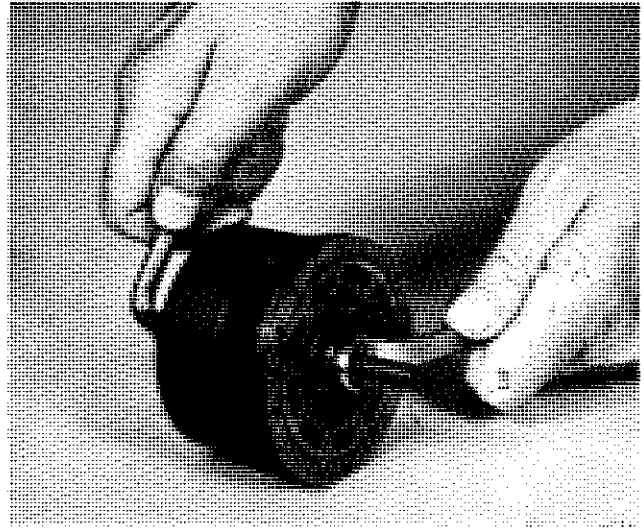

Figure VI-20. Disassembly of Cylinder Block Subassembly
11. Disassembly of Cylinder Block Subassembly (Figure VI-20)